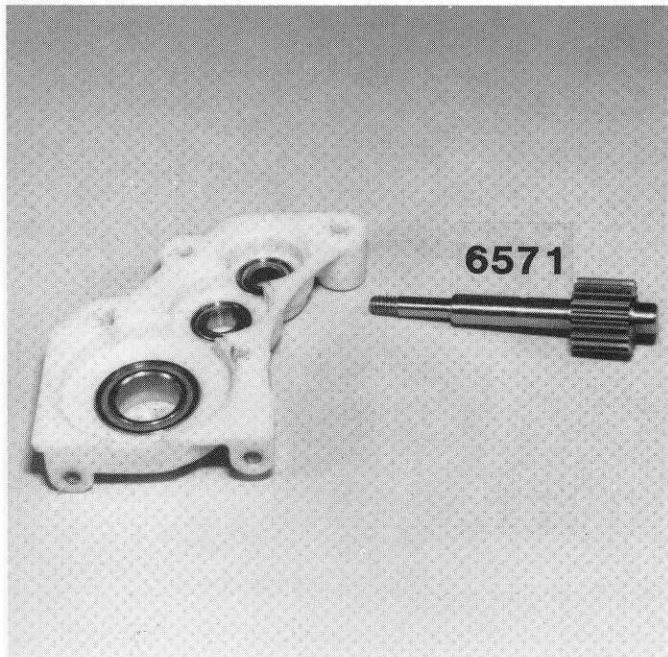

Fig. 58
□ **Figs. 58 & 59** Open Bag D and remove the #6571 drive gear assembly and slide it into the upper bearing in the right hand gear case.